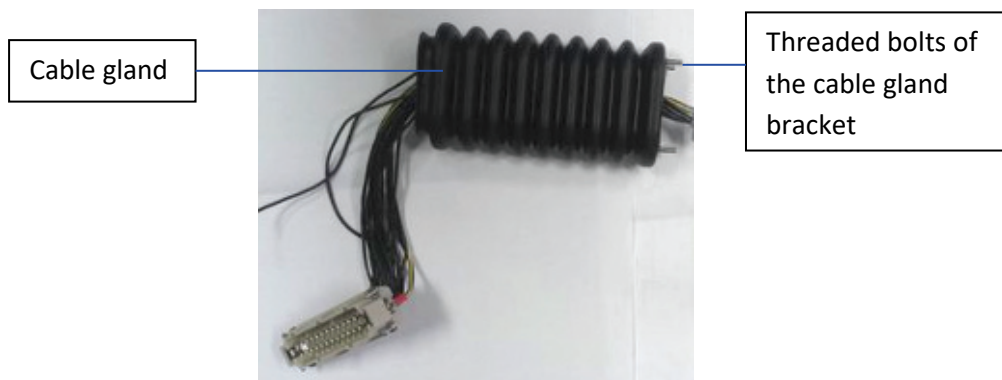

Fig. 52: Detached cable gland with bracket
3. Pull the cable gland and the cable gland bracket out of the cabinet while the cables are still inserted (see Fig. 52).
- Thread the cables through the new cable gland. Start with the Harting connector. Only then thread the remaining cables through the cable gland. The cables must be inserted from the “thicker end” (the side ending with a ridge) into the cable gland so that they come out at the “thinner end” (neck between two ridges; see Fig. 55, Fig. 52).